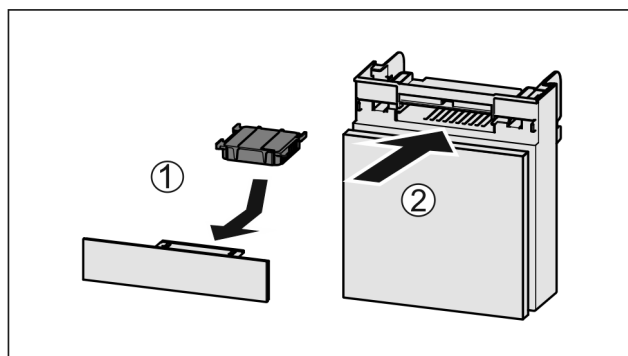

Fig. 122
- Insert the carbon filter as shown in the diagram Fig. 122 (1).
- Push the compartment in Fig. 122 (2).